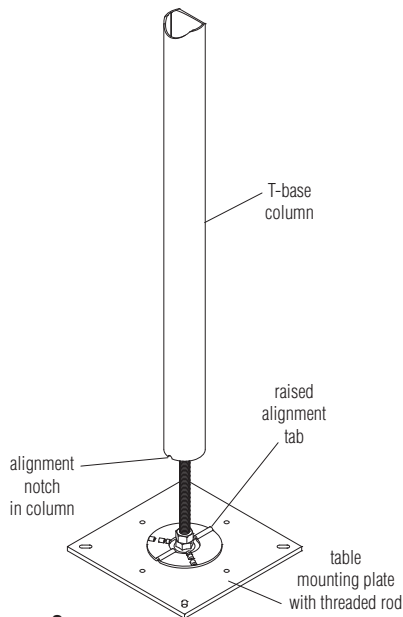

Figure 2
4. Position the T-leg column over the threaded rod and center it on the alignment washer on the mounting plate. Rotate the column around until the alignment notches of the column are seated with the raised alignment tabs on the alignment washer (Figure 2 & Detail A).